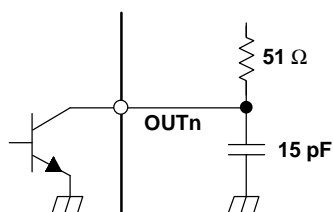
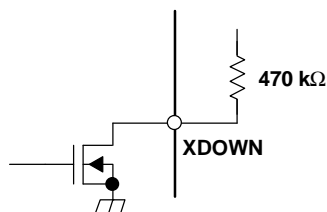

Figure 5. Test Circuit for t_{r1} , t_{f1} , t_{pd2} , t_{pd3} , t_{pd5} , t_{pd6}
Figure 6. Test Circuit for t_{pd4}
(2) See Figure 5. Defined as from 10% to 90%
(4) See Figure 5 and Figure 11
(5) See Figure 5, Figure 6, and Figure 11
(6) See Figure 5